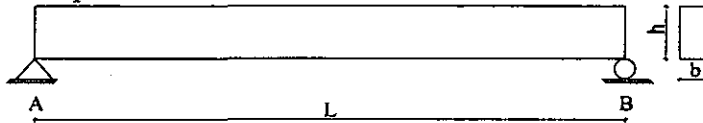

Fig. 2
- (b) A simply supported beam has a rectangular cross-section of dimension $b = 5$ cm and $h = 15$ cm as shown in Fig. 2 below, and carries a uniformly distributed dead load of intensity ω N/cm. Allowable working stresses in tension or compression and in shear parallel to the grain are given as follows: $\sigma_w = 750$ N/cm², $\tau_w = 150$ N/cm² respectively.